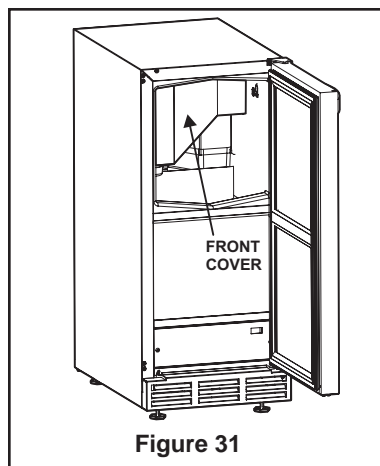

Figure 31
- 3 Remove inside front cover. (See figure 31.)